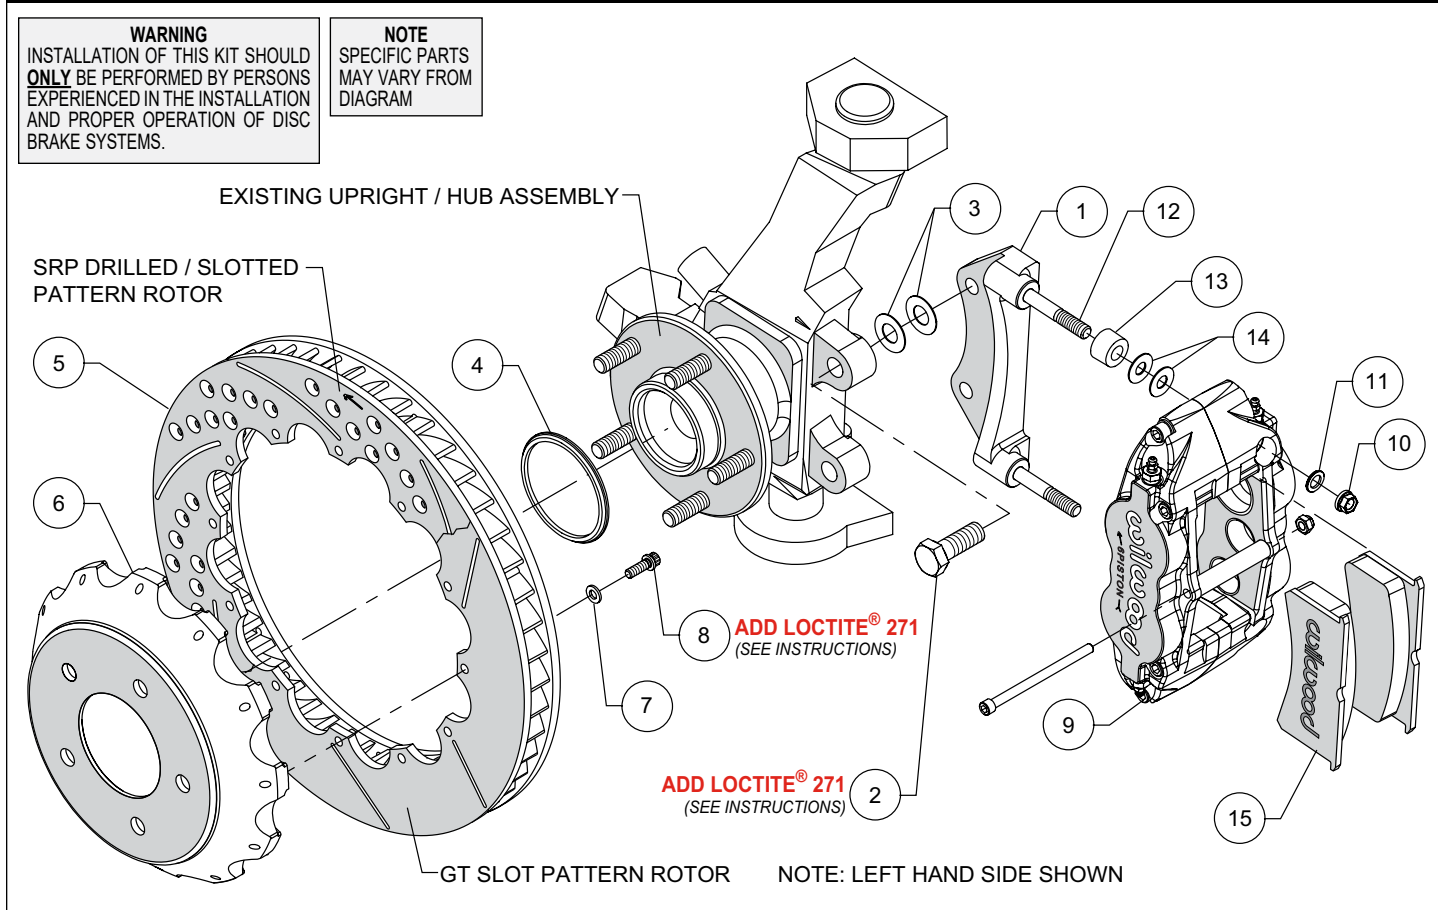
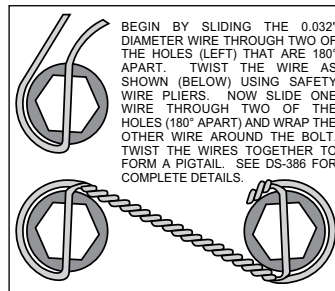

Figure 1. Typical Installation Configuration
Figure 3. Safety Wire Diagram
NOTE: Numbers in parenthesis refer to the parts list and Figure 1 on the preceding pages.
- The caliper mount bracket (1) should initially be installed with clean, dry threads on the mounting bolts. Orient the bracket as shown in Figure 1 and Photo 1, and install using shim washers (3) and bolts (2). Initially place two shims (3) on each bolt between the bracket and upright, Figure 1. Temporarily tighten the mounting bolts. **NOTE:** The bracket must fit squarely against the mount bosses on the upright. Inspect for interference from casting irregularities, machining ridges, burrs, etc. Later, after the caliper alignment has been checked, the mount bolts will be secured using red *Loctite*® 271.
- Orient the rotor (5) and the hat (6) as shown in Figure 1 and Photo 2. Attach rotor to hat using bolts (8) and washers (7). Apply red *Loctite*® 271 to the bolt threads and torque to 155 in-lb using a criss-cross pattern. For an added measure of security, the bolts may be safety wired using standard 0.032 inch diameter stainless steel safety wire as shown in Figure 3. Please refer to Wilwood's data sheet DS-386 (available at www.wilwood.com/Pdf/DataSheets/ds386.pdf) for complete safety wire installation instructions.
- Slide the rotor registration adapter (4) onto the axle register on the axle hub with the smaller O.D. facing outward, Photo 3. Slide the hat/rotor assembly onto the axle hub. **NOTE:** The hat must fit flush against the axle hub flange or excessive rotor run out may result. Install three lug nuts (finger tight) to keep the hat/rotor assembly in place while continuing with the installation.
- NOTE:** This kit contains distinct right and left hand calipers that must be mounted in a specific direction, as described below. Initially place two .035" thick shims (14) and spacer (13) on each stud (12) as shown in Figure 1 and Photo 4. Mount the caliper (9) onto the bracket (1) using lock nuts (10) and washers (11), Figure 1. Ensure that the caliper is mounted so that the largest pistons are at the rotor exit end of the caliper, in relation to the direction of rotor rotation. Temporarily tighten the lock nuts and view the rotor through the top opening of the caliper. The rotor should be centered in the caliper, Photo 5. If not, adjust by adding or subtracting shims (3) between the bracket and the upright. Always use the same amount of shims on each of the two mounting bolts. Once the caliper alignment is correct, remove the bracket mounting bolts one at a time, apply red *Loctite*® 271 to the threads, and torque to 75 ft-lb.